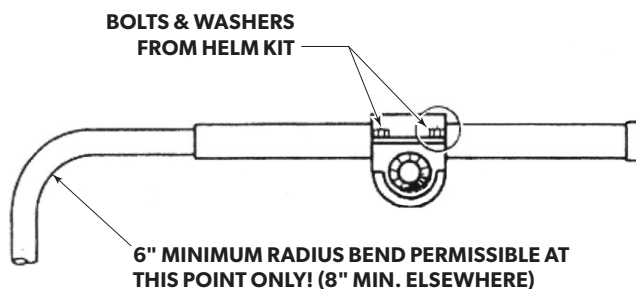

Figure 1. Viewed from back of helm.
Place the cable and drive assembly on top of the helm unit taking care that the pinion gear of helm unit meshes with gear teeth on rack. Turn helm shaft to accomplish this. Fasten cable and drive assembly to rack using four (4) $\frac{1}{4}$ -20 x 1" long locking patch bolts and four (4) $\frac{1}{2}$ " OD flat washers provided with the helm (see figure 1). Make sure the washers are under the head of the bolt. Tighten all four (4) bolts equally and securely. Mount the helm/cable and drive assembly to the helm (or the optional tilt) mounting plate, following the instructions packed with the helm.